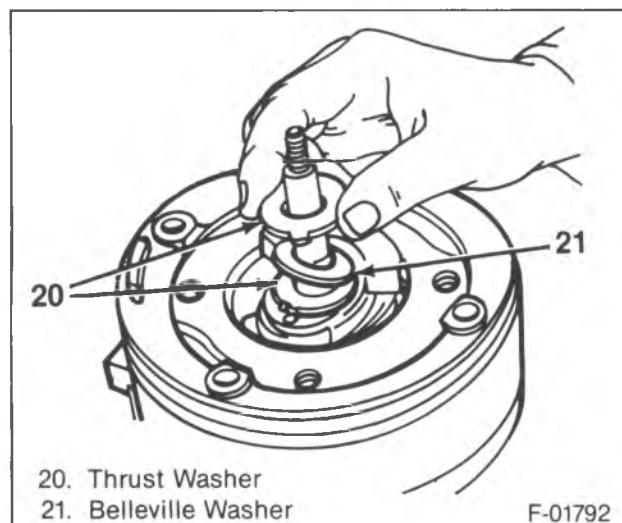

Figure 22—Replacing the Thrust and Belleville Washers
1. Rotor (5) and bearing (6) assembly.
2. Front head (15) and seal (17).
3. Two thrust washers (20) (figure 22).
4. Belleville washer (21).